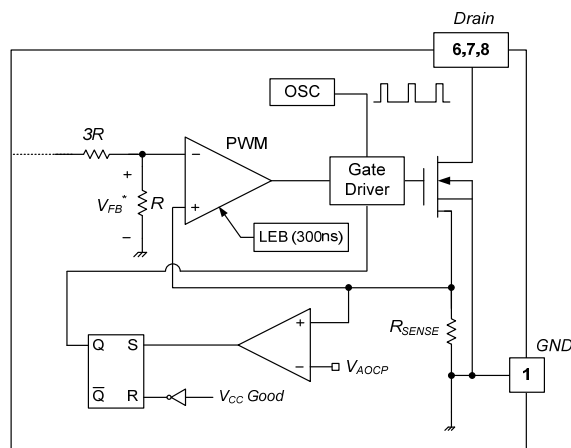

Figure 23. Abnormal Over-Current Protection
4.2 Abnormal Over-Current Protection (AOCP): When the secondary rectifier diodes or the consumer pins are shorted, a steep current with extremely high d/dt can flow through the SenseFET during the minimum turn-on time. Even though the FSL156MRIN has overload protection, it is not enough to protect the FSL156MRIN in that abnormal case; due to the severe current stress imposed on the SenseFET until OLP is triggered. The internal AOCP circuit is shown in Figure 23. When the gate turn-on signal is applied to the power SenseFET, the AOCP block is enabled and monitors the current through the sensing resistor. The voltage across the resistor is compared with a preset AOCP level. If the sensing-resistor voltage is greater than the AOCP level, the set signal is applied to the S-R latch, resulting in the shutdown of the SMPS.